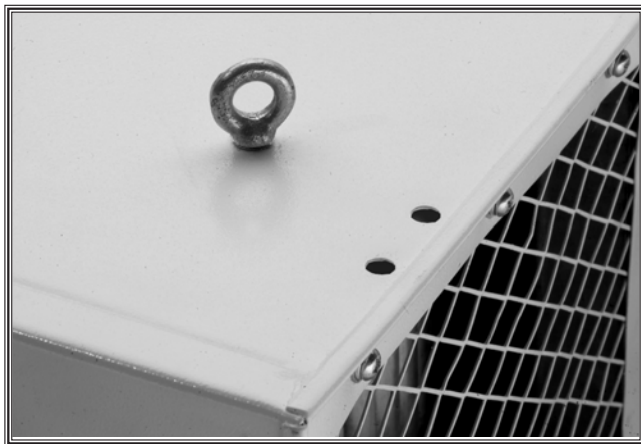

Figure 8. Eye bolt correctly seated.
3. Thread the eye bolt completely into the air filter unit until the jam-nut shoulder contacts the air filter unit. See **Figure 8**.